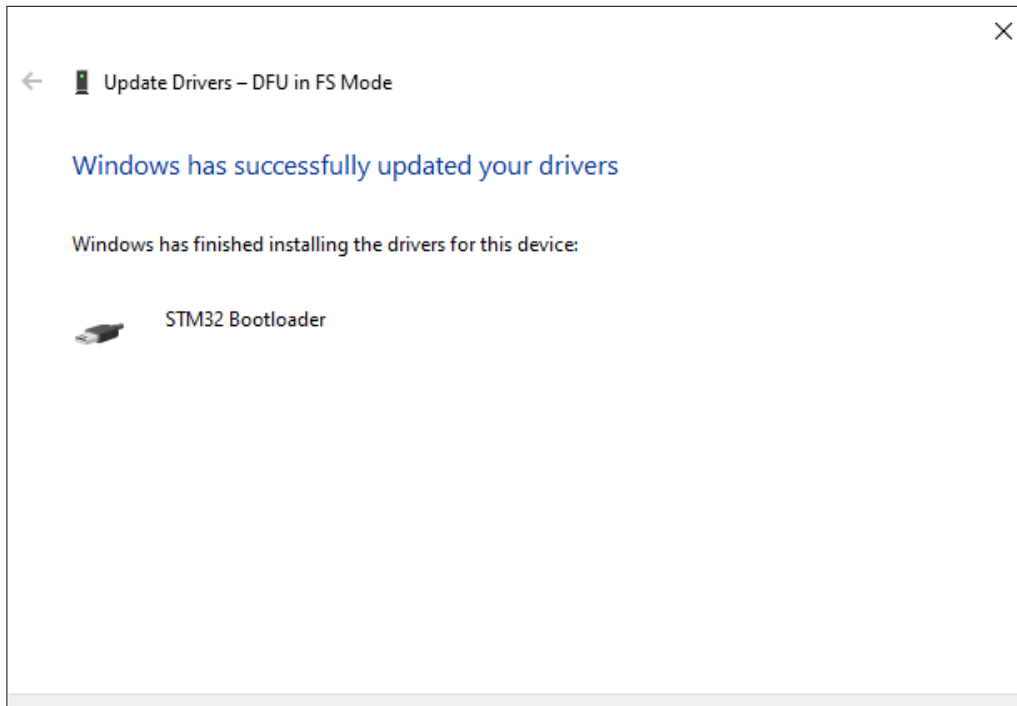

Figure 16: The STM32 Bootloader driver has been installed successfully.
- 5 The driver should now be installed successfully (see Fig. 16).